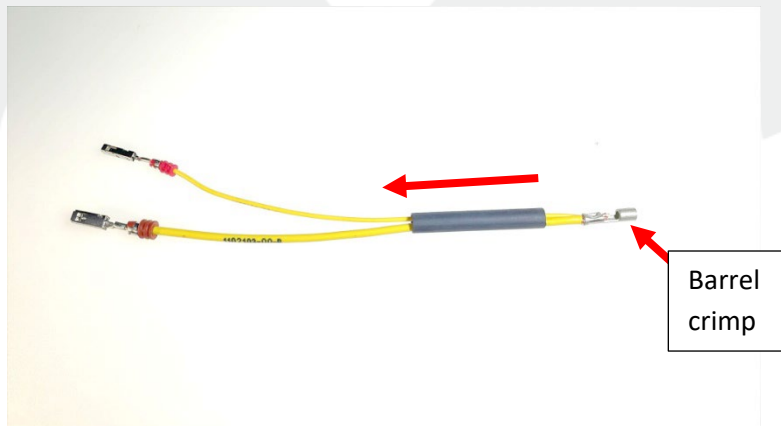

Figure 14
14. Slide the shrink tubing over both wires of the jumper, to the middle of the jumper (Figure 14).